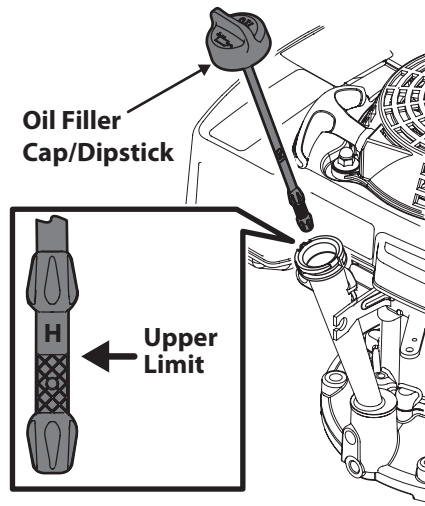

Figure 3-2
5. Remove dipstick. If the level is low, slowly add oil to the upper limit on the dipstick. See Figure 3-2 inset.